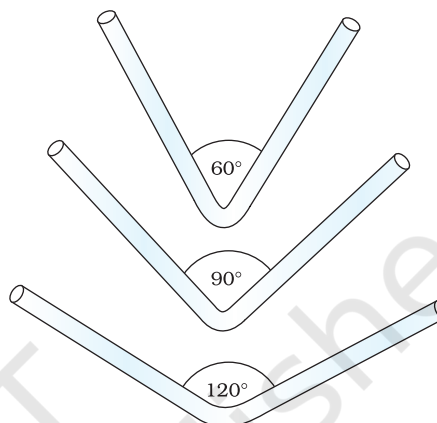

Fig. 2.5 : Bend drawn at various angles
- (vi) Bend the tubes at different angles as shown in Fig. 2.5.